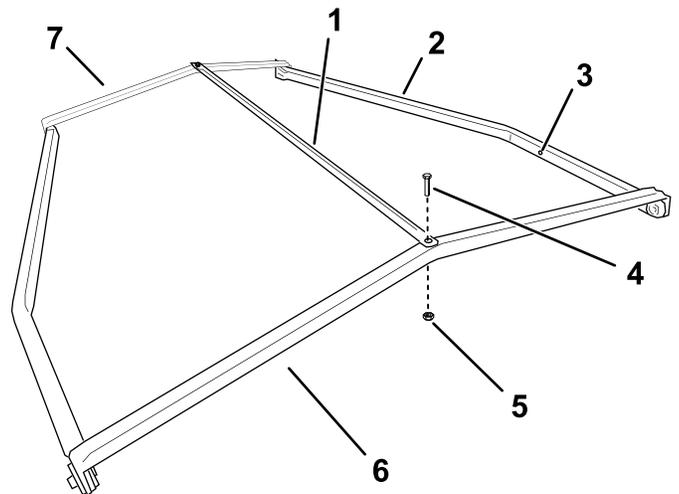
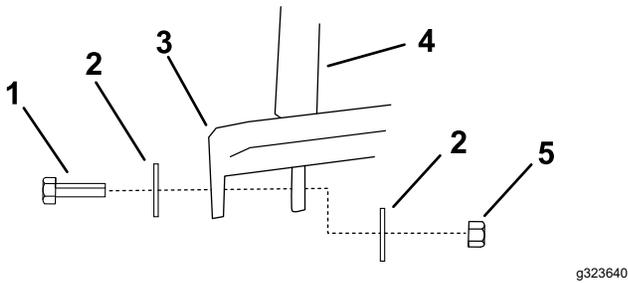

Figure 5
Figure 6
1. Install the center brace to the front frame tube and rear frame tube using a bolt (1/4 x 1 inch) and acorn nut on each end (Figure 5).
4. Bolt—1/4 x 1 inch (2)
5. Acorn nut (2)
- Install the 2 side frame tubes to the rear frame tube (Figure 5 and Figure 6).
Note: Install the side frame tubes so that they bend outward and the holes for the rear posts are closer to the rear frame tube, as shown in Figure 5; ensure that the heads of the bolts face outward.